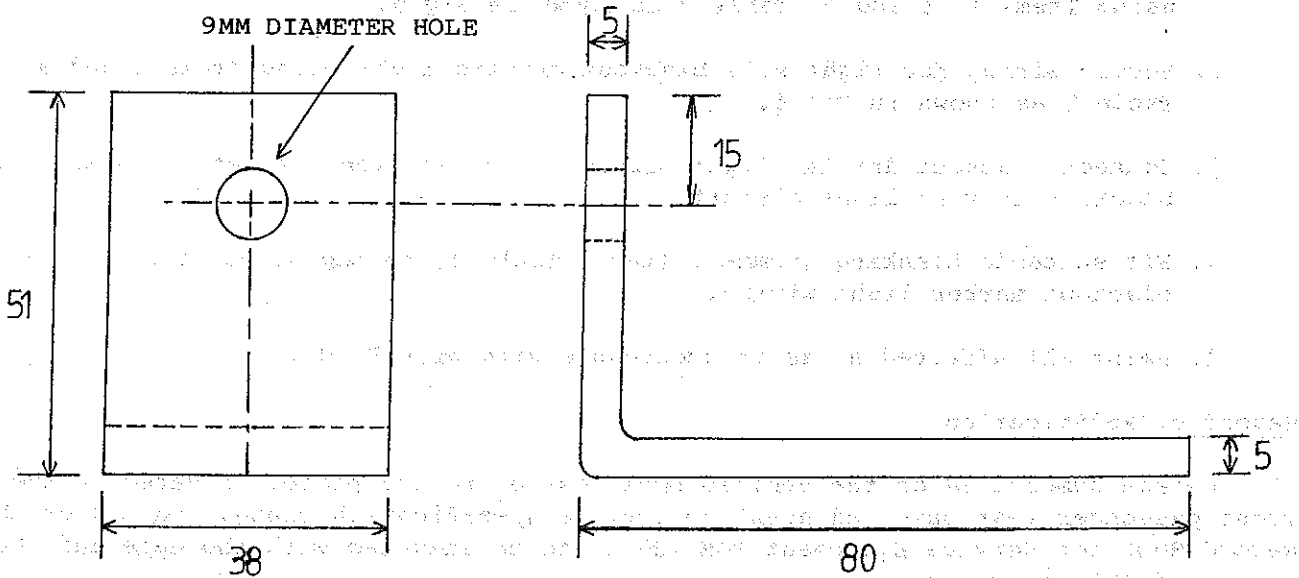

FIG 1 - MOUNTING BRACKET
- c. Manufacture two brackets using Item 1, Table 1, as shown in Fig 1.
- b. Manufacture two brackets using Item 13, Table 2 as shown in Fig 1.